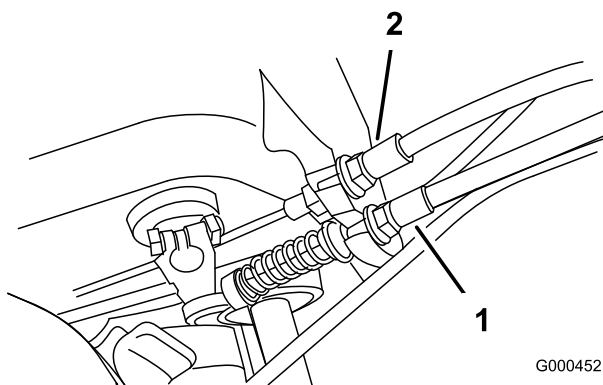

Figure 31
2. To increase cable tension, loosen front cable jam nut and tighten back cable jam nut (Figure 31) until a force of 6-9 lb. is required to engage brake. Force to be measured at lever knob. Do not over adjust, or brake band may drag.